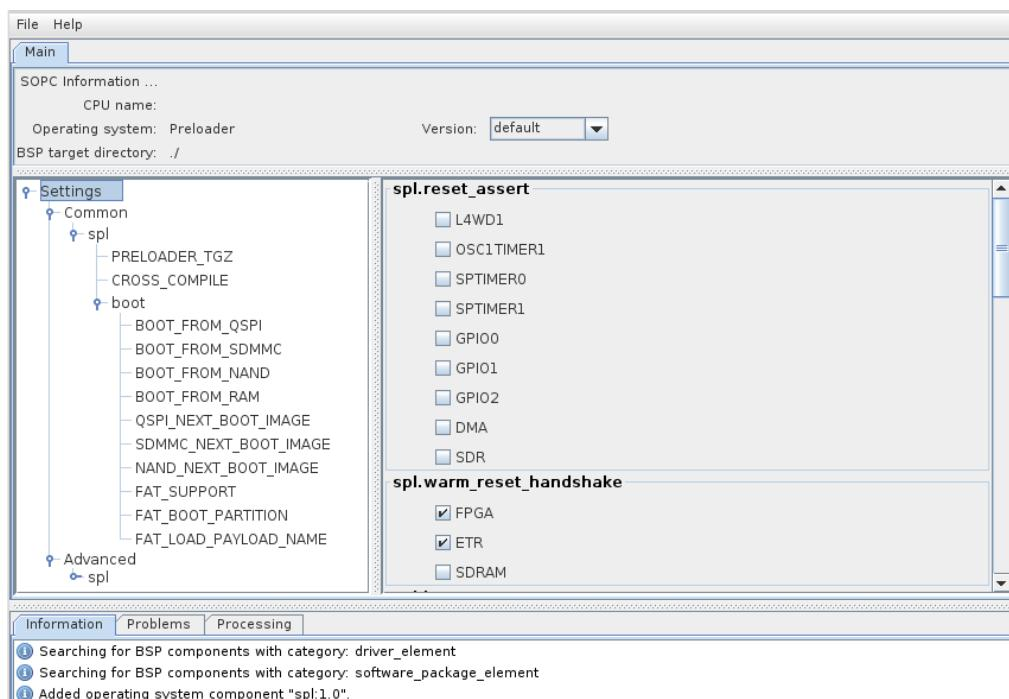

Figure 8-26. Preloader Settings Dialog
- Press the “OK” button. You should then arrive on a page with many settings, as shown on Figure 8-26. Take some time to read through them to see what the preloader has the ability to do.
- On the main settings page of Figure 8-26, we will only need to modify 3 parameters for our design.